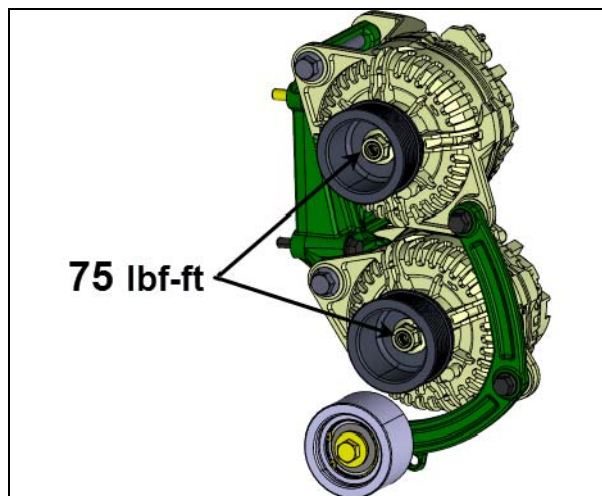

FIGURE 5
9. Mount pulley onto alternators (figure 5). One (1) flat washer #500449 is required between the pulley and the flange nut. Use Loctite 243 blue on threads. Tighten pulley mounting nut to **75 lbf-ft** using offset 7/8 wrench and a M10 12-points spline drive mounted on a torque wrench.